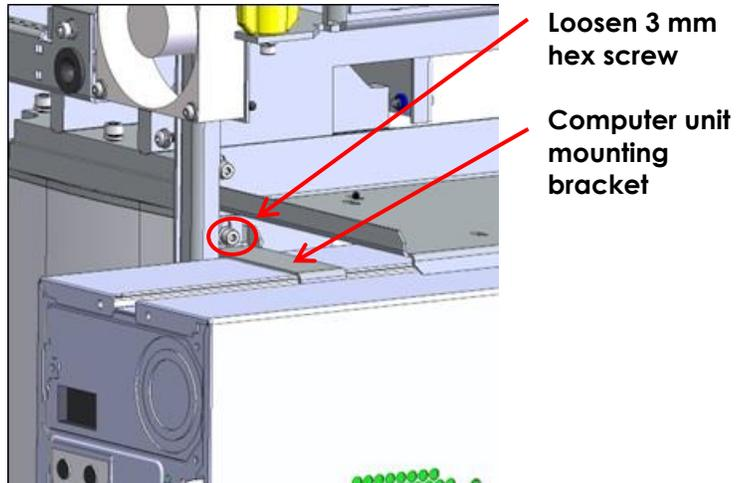

Figure 94: Computer Unit Mounting Bracket
8. Use a 3 mm hex driver to loosen the *computer unit mounting bracket* on the chassis (refer to Figure 94).
3. Using a 3 mm hex driver, adjust the screw holding securing the *computer unit mounting bracket* on the chassis so that it grips the middle rail of the computer tightly (refer to Figure 94).